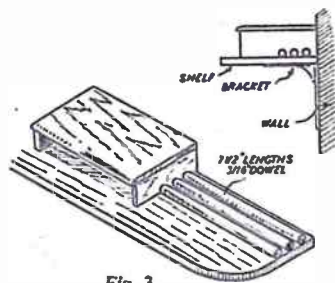

Fig. 3
dowels glued to the top of the shelf, as shown—Fig. 3. Letters or cards are simply propped up between the dowels and the wall. (375)